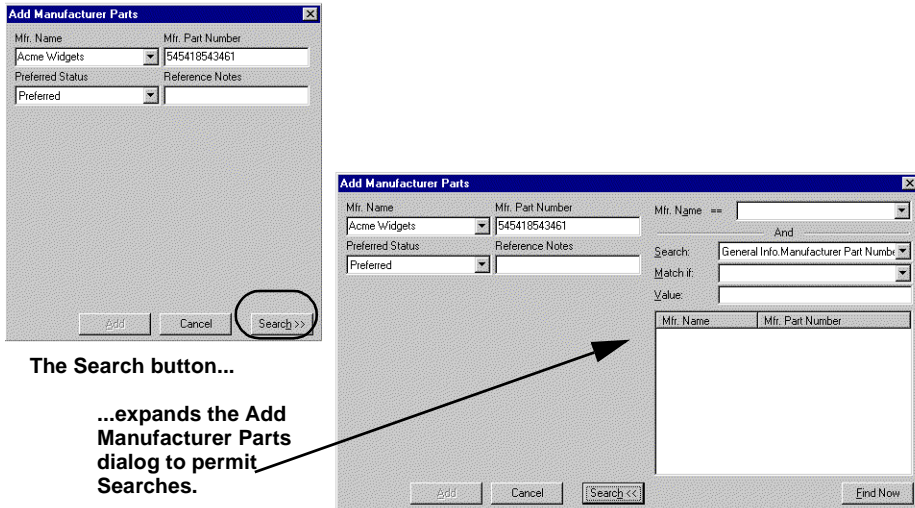

Figure 5-7: The Search functions of the Add Manufacturer Parts dialog box, Agile CM
- If you need to locate the correct Manufacturer Part Number, click **Search**. A search dialog box appears (shown in Figure 5-7).